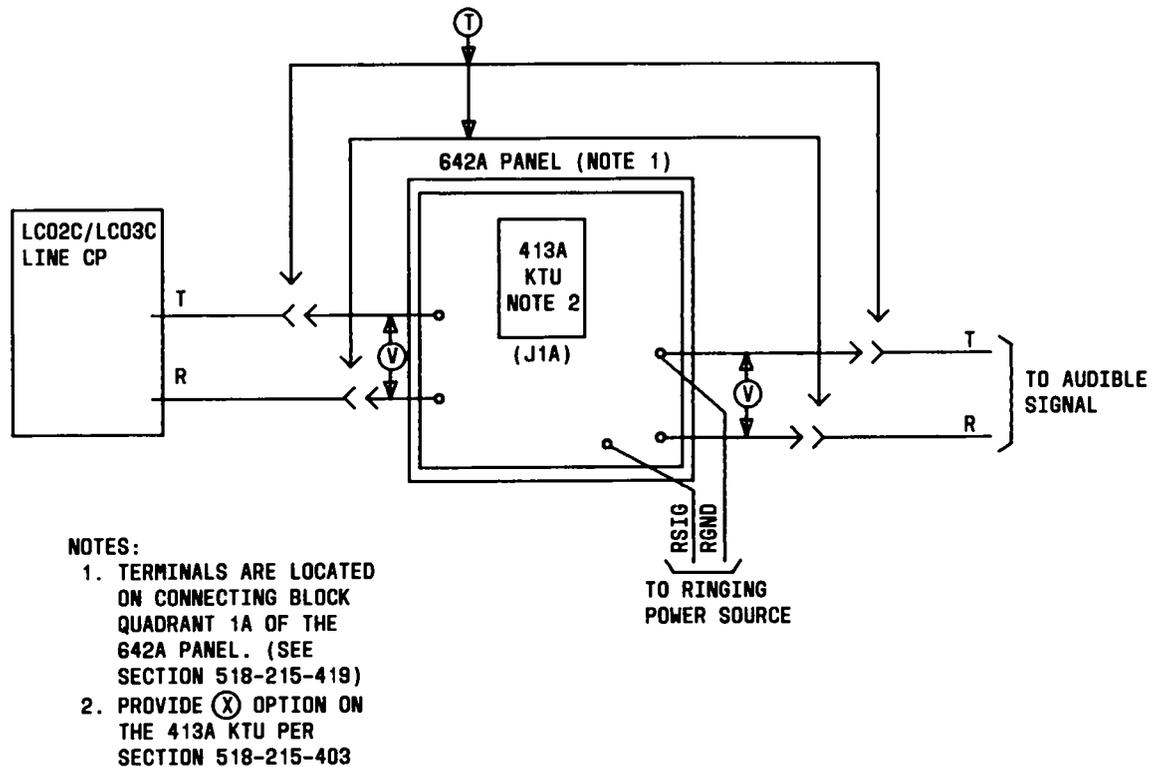

Fig. 46—TAAS Arrangement
**4.135** This feature is assigned one line circuit on an LC02C circuit pack. The signaling device (gong, bell, chime, etc) is connected directly to the assigned line circuit (option T). If the line circuit capacity is exceeded, an isolating circuit must be provided (option V) (Fig. 46).